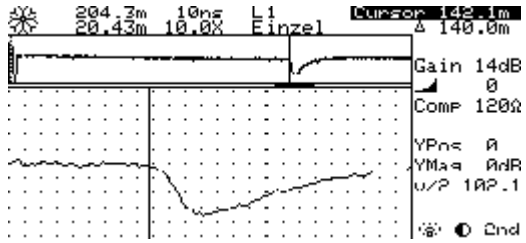

Fig 4 Type of Fault Causing a Negative Reflection
- (1) Short circuit: Direct contact of two conductors of a cable. This will cause a negative reflection, see Fig 4.